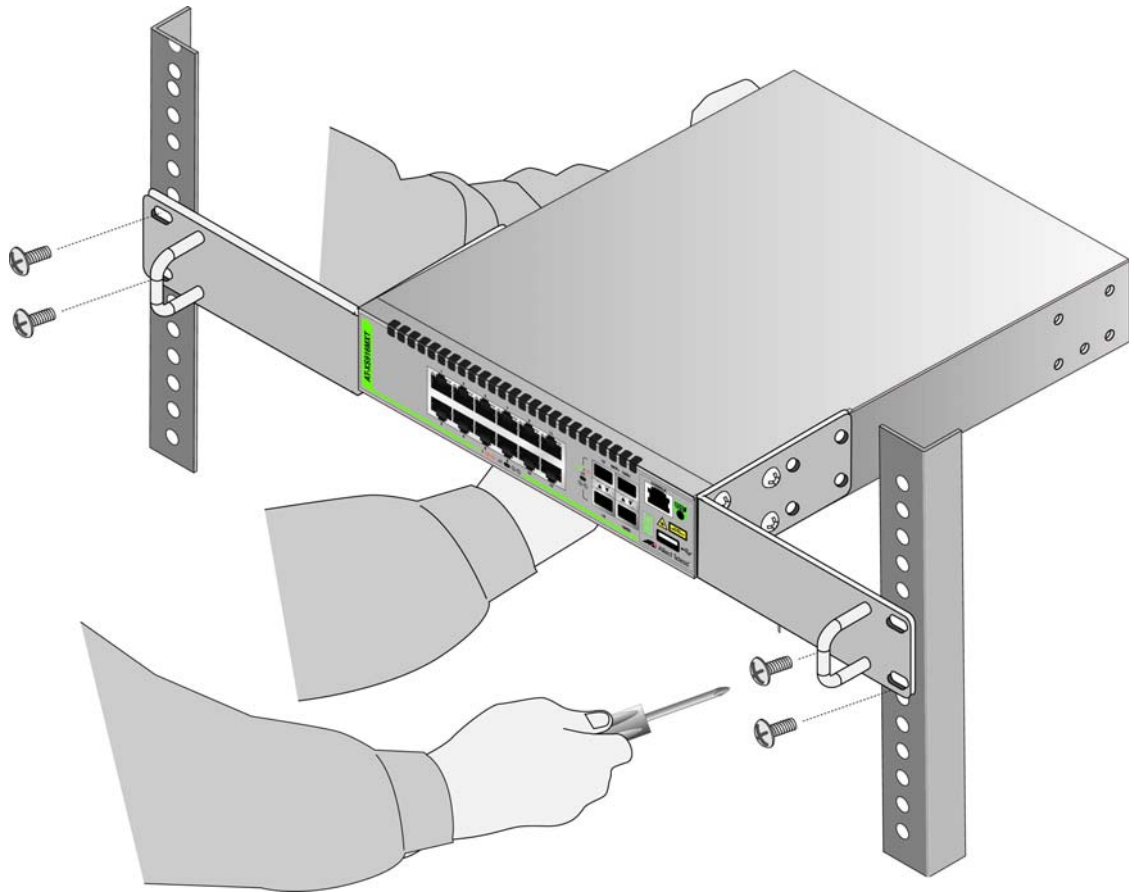

Figure 29. Installing the Switch in an Equipment Rack
4. Have another person hold the switch at the desired location in the equipment rack while you secure it using four standard equipment rack screws (not provided). Refer to Figure 29.